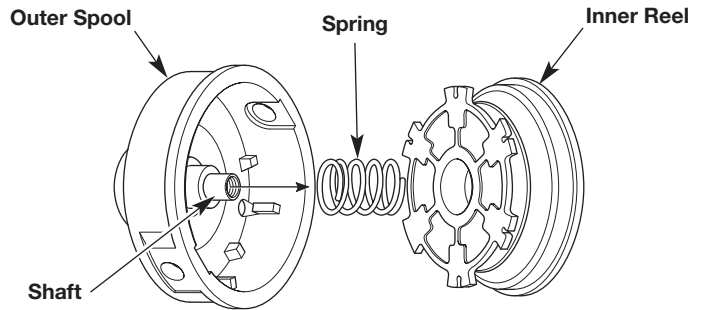

Fig. 13
3. Remove the inner reel from the outer spool (Fig. 13).
4. Remove the spring from the inner reel (Fig. 13).